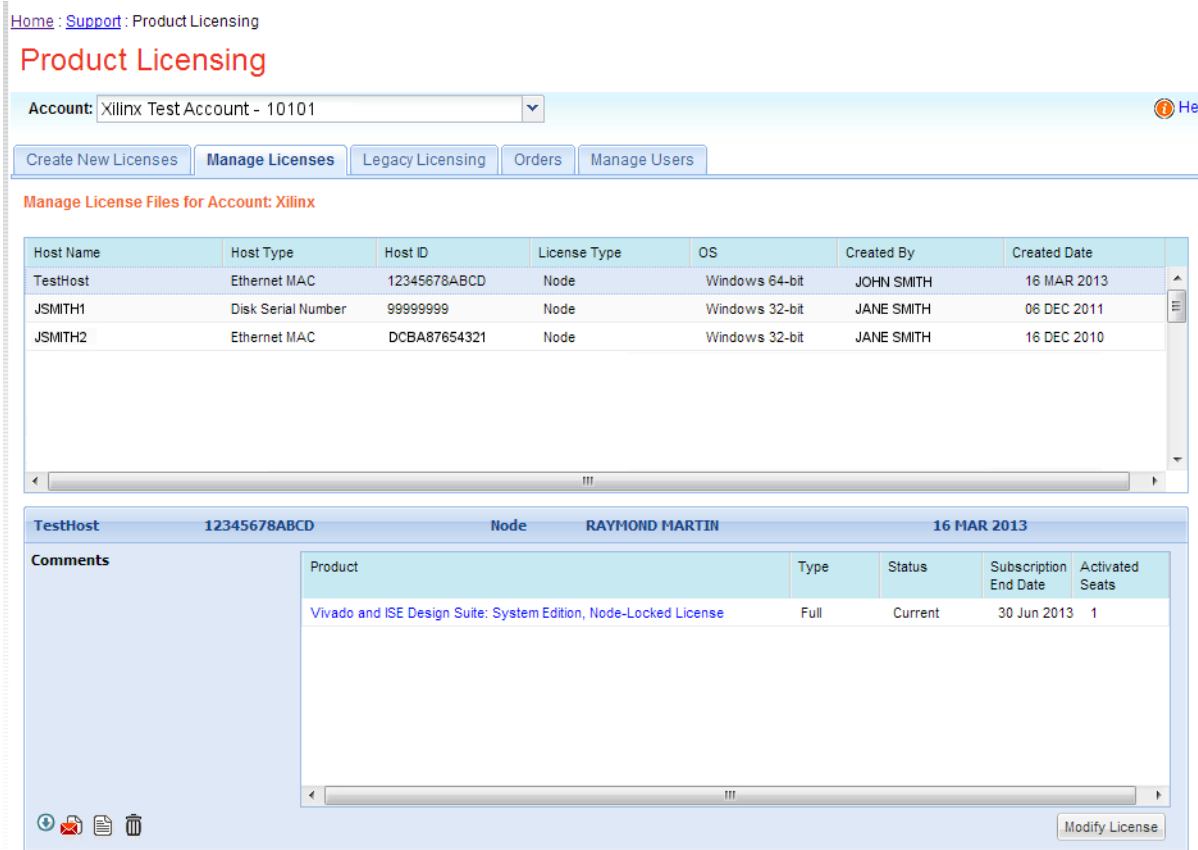

Figure 5-11: Manage Licenses
1. From the Manage Licenses Tab (see Figure 5-11), select the license file you wish to delete.
1. From the Manage Licenses Tab (see Figure 5-11), select the license file you wish to rehost.
1. From the Manage Licenses Tab (see Figure 5-11), select the license file to which you wish to add seats.
1. From the Manage Licenses Tab (see Figure 5-11), select the license file from which you wish to remove seats.
1. From the Manage Licenses Tab (see Figure 5-11), select the license file to which you wish to add features/entitlements.